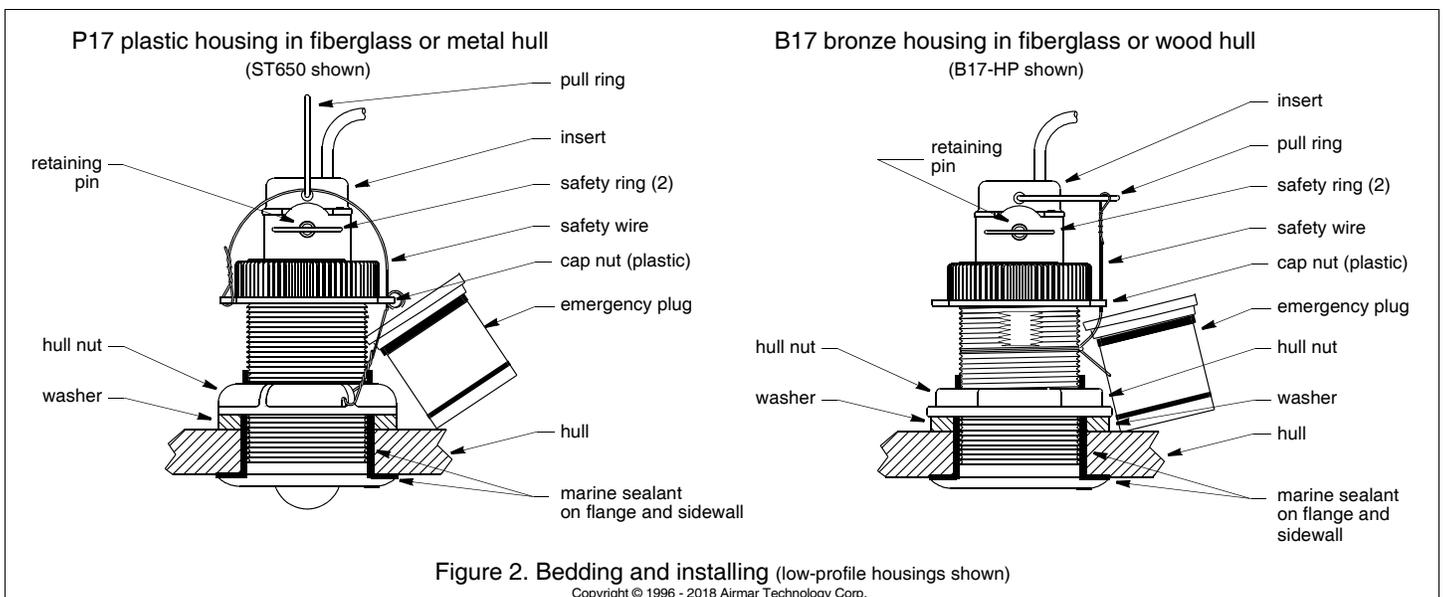

Figure 2. Bedding and installing (low-profile housings shown)
Apply a 2mm (1/16") thick layer of marine sealant around the flange of the housing that contacts the hull and up the sidewall of the housing (Figure 2). *The sealant must extend 6mm (1/4") higher than the combined thickness of the hull, washer(s), and hull nut.* This will ensure there is sealant in the threads to seal the hull and to hold the hull nut securely in place.
1. From outside the hull, push the housing into the mounting hole using a twisting motion to squeeze out excess sealant (Figure 2).
10. Attach one safety ring to one end of the retaining pin. Slide the retaining pin through the valve assembly and the insert. Attach the second safety ring to the retaining pin (Figure 2).
- Remove the insert from the housing by removing the safety wire, one safety ring, and the retaining pin. Do not remove the cap nut (Figure 2).
- Slide the *long* blanking plug into the housing with the arrows on the top pointing forward toward the bow. Seat it into place with a pushing twisting motion until the keys fit into the notches (Figure 3). Secure it with the retaining pin, safety rings, and safety wire (Figure 2).
- Remove the *short emergency plug* from the safety wire (Figure 2).